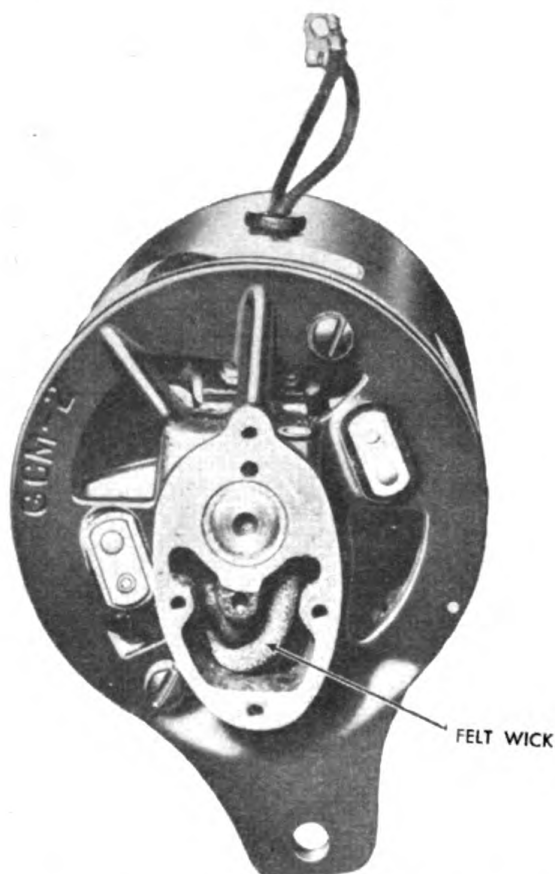

Figure 230. Felt wick in Commutator End Head.
F. Assemble the felt wick in the commutator end head. See Figure 230 for proper position after assembly.